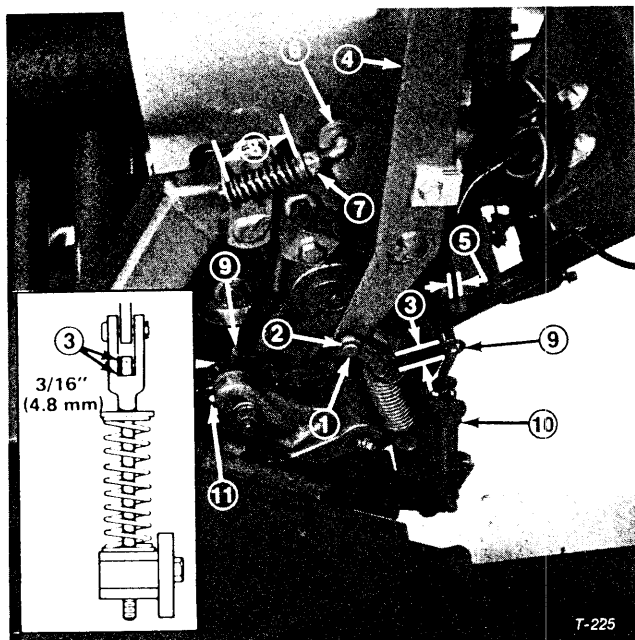

Figure 26
The clevis has been adjusted at the factory for proper position when belts and pulleys are new. As these parts wear, the clevis will position itself closer to the roll pin (Fig. 26). Contact between the inner surface of clevis and roll pin in the engage position will result in loss of traction. When this occurs, proceed as follows:
2. Remove cotter pin and clevis pin and swing clevis rearward to disengage from casting (Fig. 26).
4. Reinstall clevis and fasten with clevis pin and cotter pin (Fig. 26).
5. This will provide original 3/16 in. (4.76 mm) clearance (inset, Fig. 26) between pin and clevis with traction control lever in forward position with bolt length 11/32 in. (8.73 mm) for proper over center condition of the lever (Fig. 26).
2. Move cutting unit lever to ENGAGED position (Fig. 26).
3. Adjust nut until spring length is 1-1/8 in. (28.6 mm) (Fig. 26).
2. Place cutting unit and traction control levers in ENGAGED positions (Fig. 26).
3. Loosen nuts securing guides (Fig. 26). Take care when loosening front nut so chain sprocket does not change position (Fig. 26).
5. Hold guides in position and tighten nuts to secure adjustment (Fig. 26).